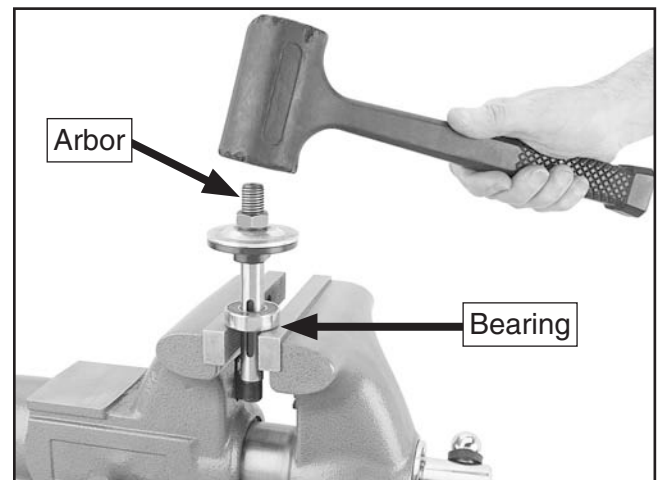

Figure 140. Seating arbor into new bearing.
19. Slide a new 6203-2RS ball bearing, part P1023RL100, onto the arbor shaft, then place the arbor between the vise teeth, as shown in **Figure 140**.
20. Using the rubber hammer, seat the arbor onto the bearing (see **Figure 140**), then remove it from the vise.